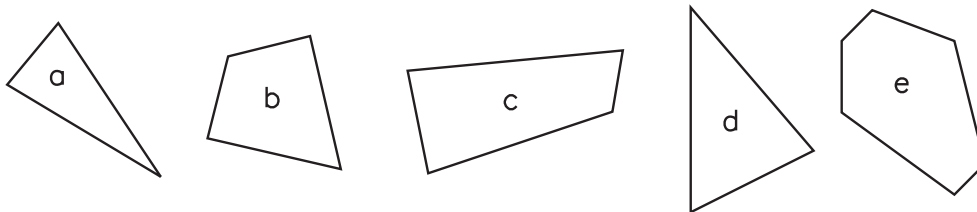

Fig. 6-9
2. Create a new drawing. Use the **LINE** command to draw polygons *a* through *e* as shown in Fig. 6-9. Enter the **ERASE** command and use the various object selection options to accomplish the following operations without pressing **ENTER**.